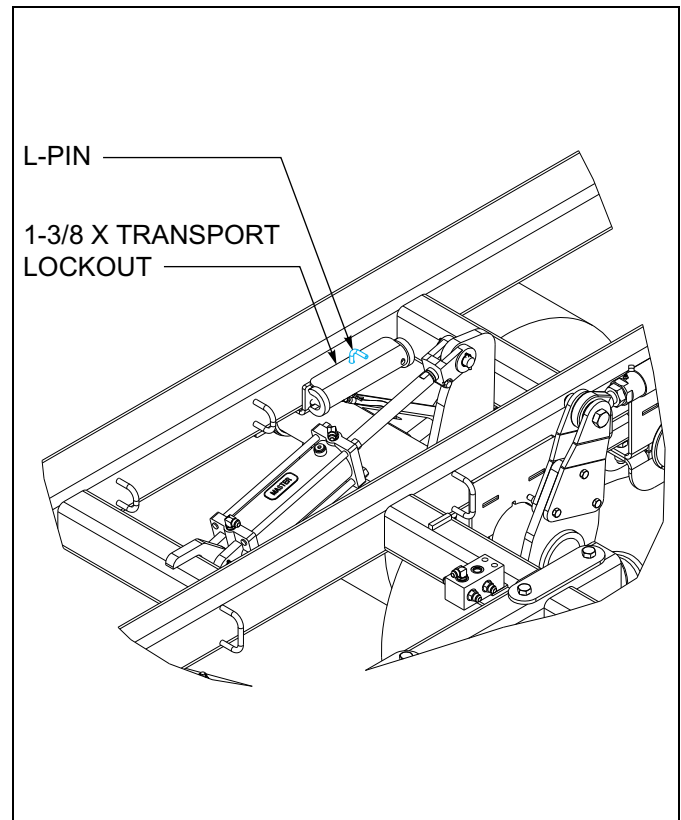

Figure 4-4: Stored Transport Locks
- Store transport lockouts as shown in Figure 4-4.
1. Raise the unit to take the weight off of the transport locks. Remove the transport locks from the lift cylinders (on the main frame only.) Store the transport locks on the retainers above the main lift **(See Figure 4-4.)**